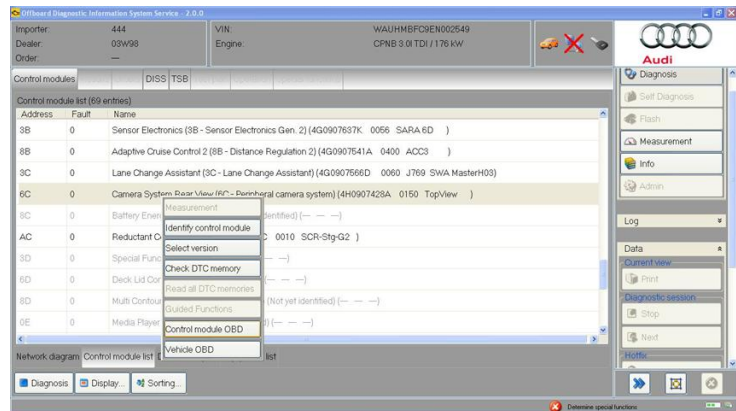

Figure 2. Selecting Control module OBD.
- a. Right-click on the 6C module, then select *Control module OBD* (Figure 2).